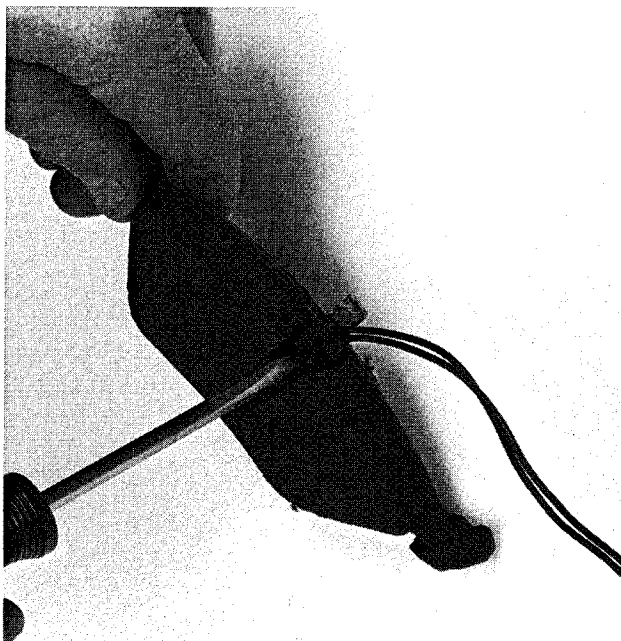

Fig. 5. Removing brake pad wear sensor.
6. Remove brake pads from caliper. Where applicable, carefully pry pad wear sensor from pad. See Fig. 5.